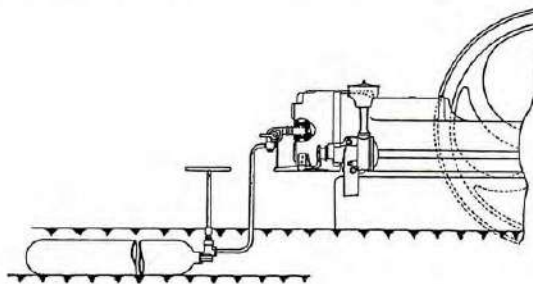

Fig. 6.
- (1) On sizes O or OE 115 to 117, and 215 to 217, as illustrated in Fig. 6, the receiver is charged up with compressed air direct by the engine itself from the engine cylinder. The charging and starting valve on the engine was formerly operated by hand, but this is now being arranged to be cam controlled as illustrated below.